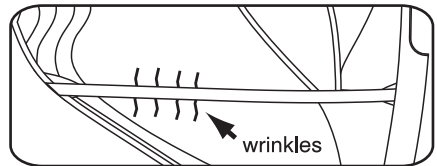

Figure 9: Tension the battens until there are no vertical wrinkles on either side of the batten pocket.
Use the tensioner key that is stored in the pad of the sail and tension the battens until you eliminate any vertical wrinkles that extend out from either side of the batten pocket (Figure 9).
- After rolling the sail, tuck the pad so it rests along the sail, wrap the tack strap around the pad and the sail, then attach the velcro (Fig. 9).